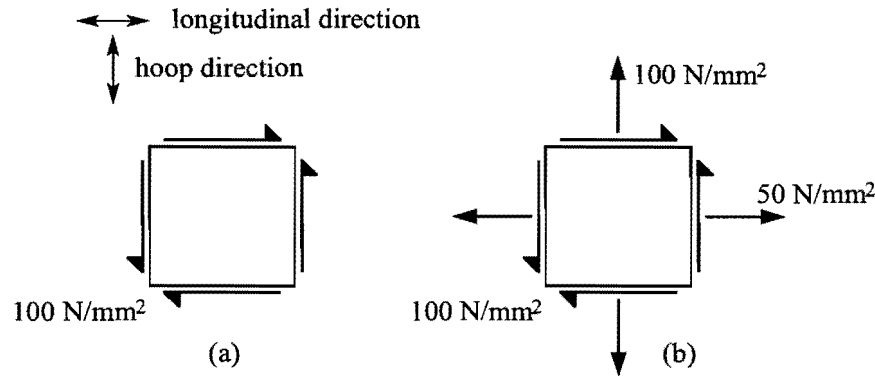

Figure 2
- † 2. (a) Figure 2(a) shows the shear stresses acting at a point in the surface of a thin-walled circular cylinder under torsion. Determine the principal stresses and principal stress directions, using Mohr's circle. Sketch the cylinder, indicating planes on which there is zero shear stress.
- (b) Pressurisation of the cylinder results in the superposition of normal stresses, giving the stress state shown in Figure 2(b). Determine the resultant principal stresses and the new principal stress directions.